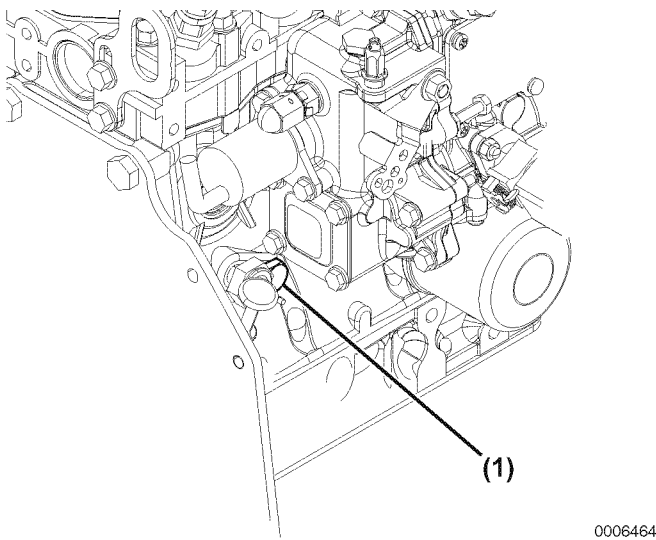

Figure 5-17
4. Drain the coolant from the engine block. Remove the coolant drain plug (Figure 5-17, (1)) from the engine block.